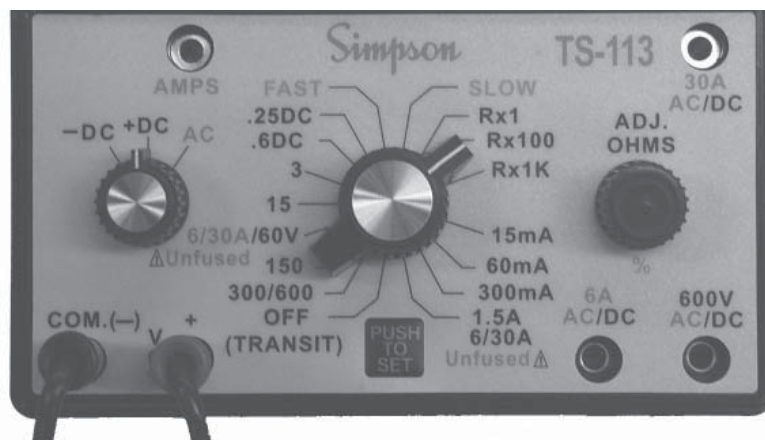

Figure 6. Resistance Measurements
- Connect leads to “COM(-)” and “+” (V W %) jacks as shown in Fig. 6